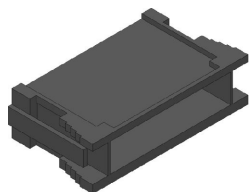

Figure 1. Porte galettes SICMA
- 2 portes galettes SICMA (Figure 1.)